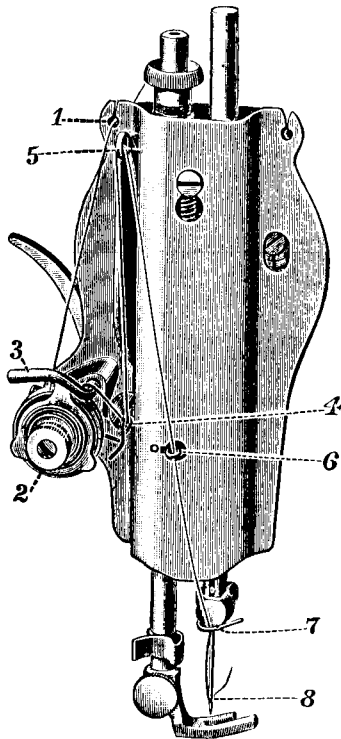

FIG. 9
Place the spool of thread on the spool pin; draw the thread through the thread retainer guide (see 1, Fig. 9) at the back and near the top of the face plate, under and between the tension discs (2) from the back, up into the tension thread guard (3), into the hook (4) of the take-up spring, pass up and through the eyelet (5) in the end of the take-up lever from the back, draw down into